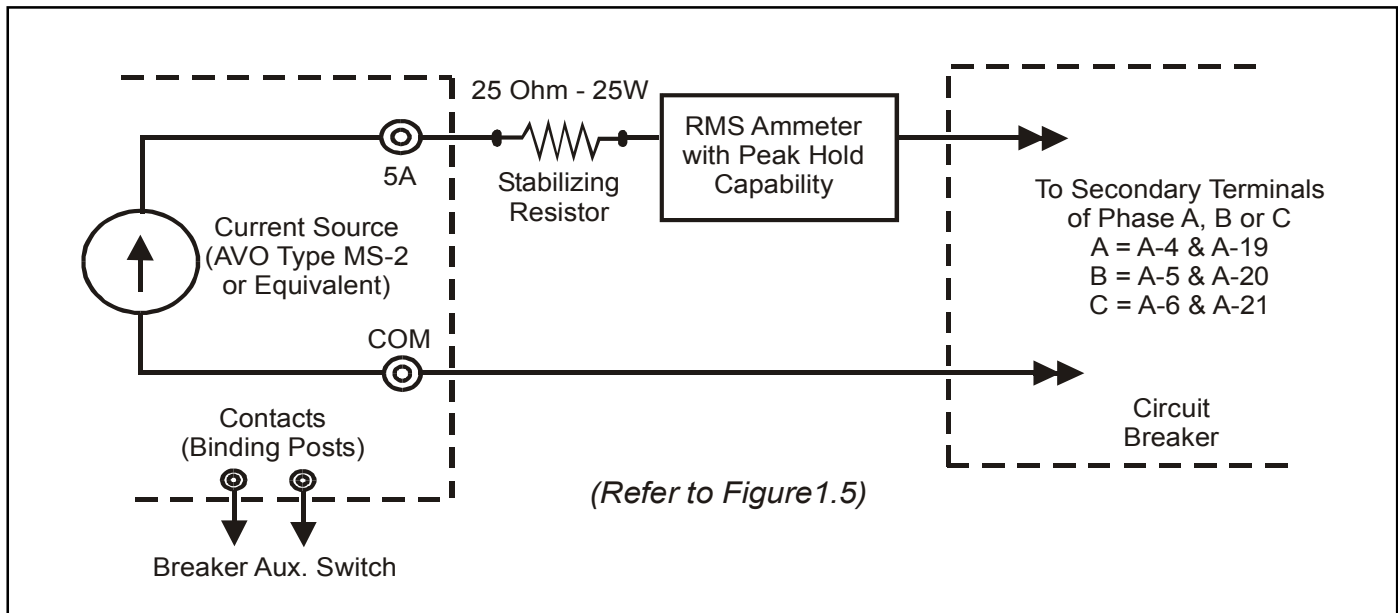

Figure 5.5 Secondary Injection Test Setup
2. For secondary injection tests, a separate True RMS ammeter with a "peak hold" feature is required (*See Figure 5.5*). The built in meter of the MS-2 tester is not True RMS and does not provide an accurate measurement of the secondary injection current. This is because of the trip unit's "chopper" power supply. The peak hold feature will hold the trip current level when an auxiliary switch from the circuit breaker is wired back to the tester's terminals (white posts) labeled *Contacts*.
3. Also when performing low current secondary injection tests (less than 2 Amperes) it is desirable to insert an additional 25 ohm impedance (resistor or inductor) rated at 25 or 50 watts in series with the 5A terminal post. This will provide proper impedance for the "chopper" and is useful in stabilizing the current (*See Figure 5.5*).